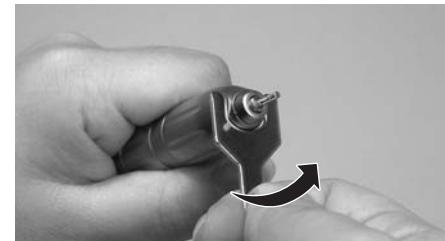

Fig.10
- Fit the cartridge wrench supplied with the handpiece to the flats of the handpiece nose. Turn the cartridge wrench as shown in (Fig.10) after it is loosened, turn the nose by fingers and remove from the handpiece.